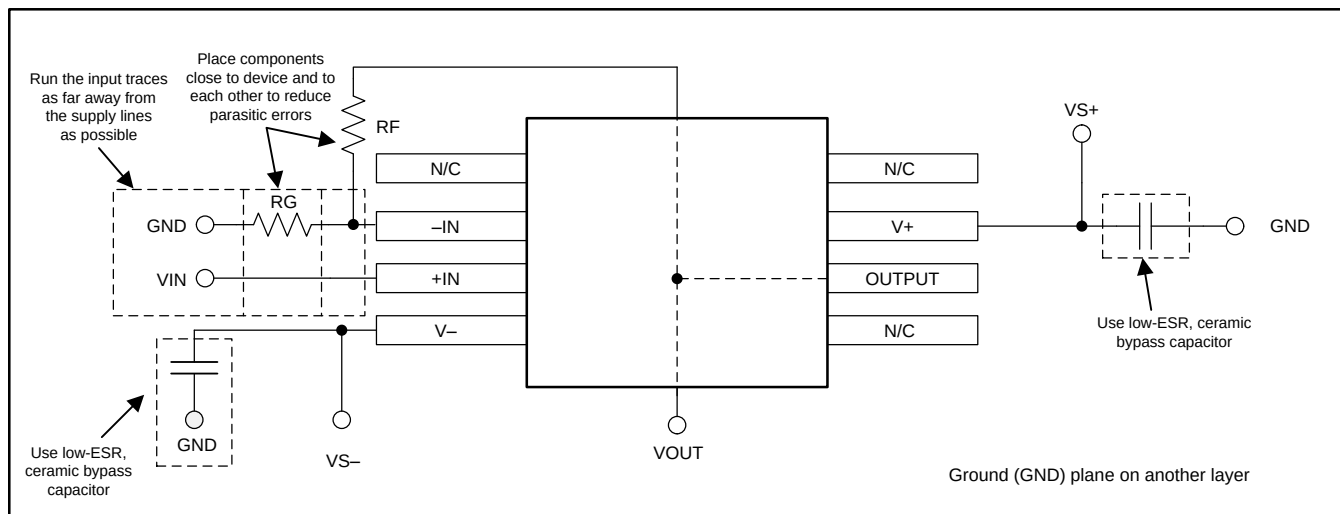

**Figure 35. Operational Amplifier Board Layout for Noninverting Configuration**
- Place the external components as close to the device as possible. As illustrated in Figure 35, keeping RF and RG close to the inverting input minimizes parasitic capacitance.